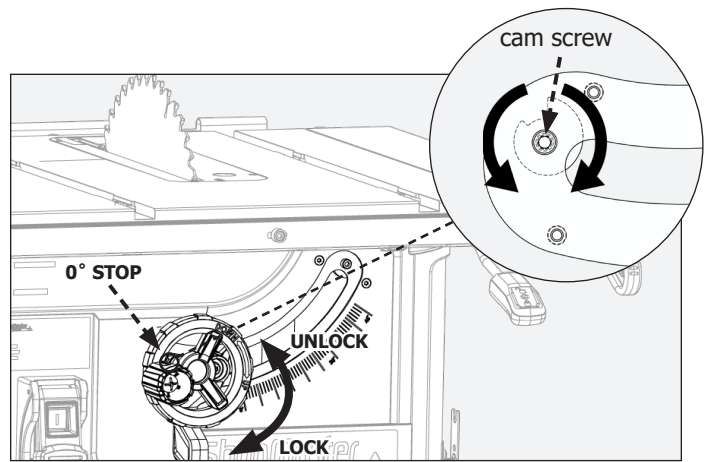

FIGURE 33
Corrective adjustments can be made by adjusting the bevel stop cams at each end of the bevel track as follows; If the blade is not vertically square to the table, you must adjust the 0° bevel stop cam (FIGURE 33).
2. Loosen the cap screw that locks the 0° bevel stop cam in place (center of the cam). As shown in FIGURE 33